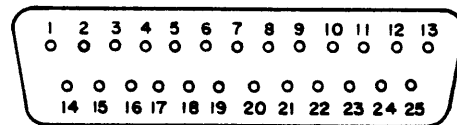

FIGURE 2-2 KA 126 CONNECTOR P1261/J1261 NO KEYING
- D. Using the leveling surfaces on the base of the KA 126 (See Figure 2-2) shim the unit until it is mounted dead ahead  $\pm 1/2^\circ$ .